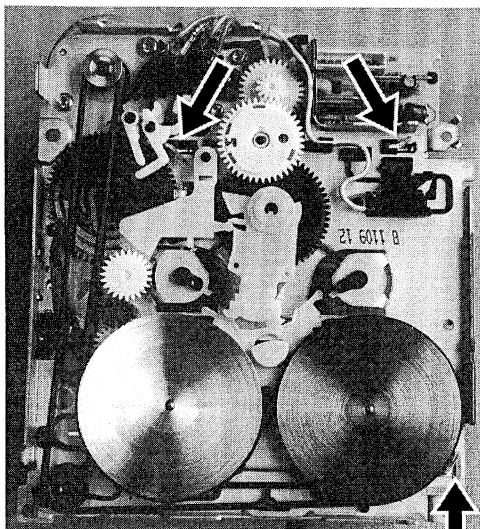

Figure 16
- Remove flywheel (NOR) pos.11 as described in '6.8'.
- Cut pin of switch wheel 1 pos. 37.
- Take out switch lever assy pos. 39.
6.15 Gear rod pos. 54 / Lift wheel gear pos. 68
- First remove the cassette loading assy pos. 50 by bending the three lips of the assy in straight position, lifting it at the front and sliding it out carefully. See figure 16.
- Take out gear rod pos. 54.
- Remove fixation retaining ring pos. 6.
- Take out lift wheel gear pos. 68.